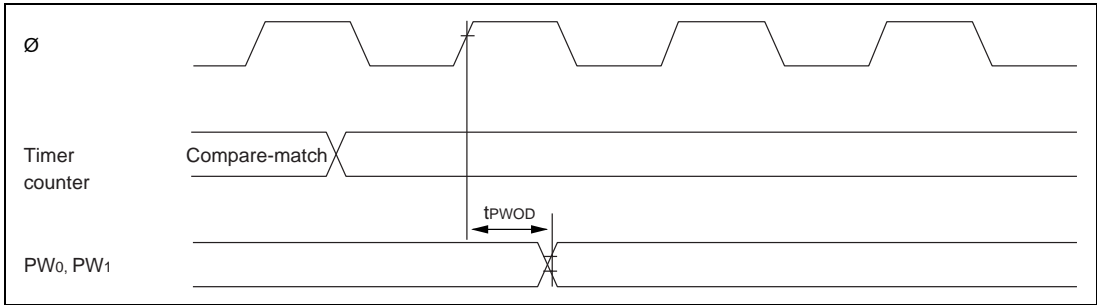

Figure 16.15 PWM Timer Output Timing
16.3.5 PWM Timer Timing	Figure 16.15